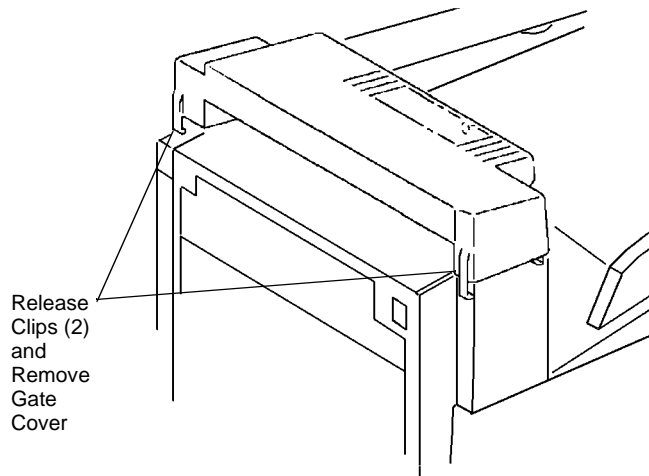

Figure 1 Removing Gate Cover
5. Remove Gate Cover (Figure 1).